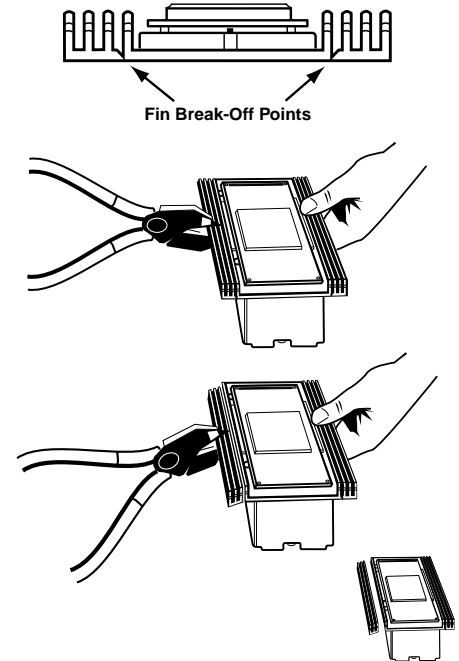

Figure 3 – Wallplate Installation / Removal
- 2A. Remove Monet™ wallplate from Monet™ dimmer by gently pulling at top or bottom edges until it snaps off (see Figure 3).
- Snap Monet™ Decora® wallplate on over heatsink (see Figure 3).